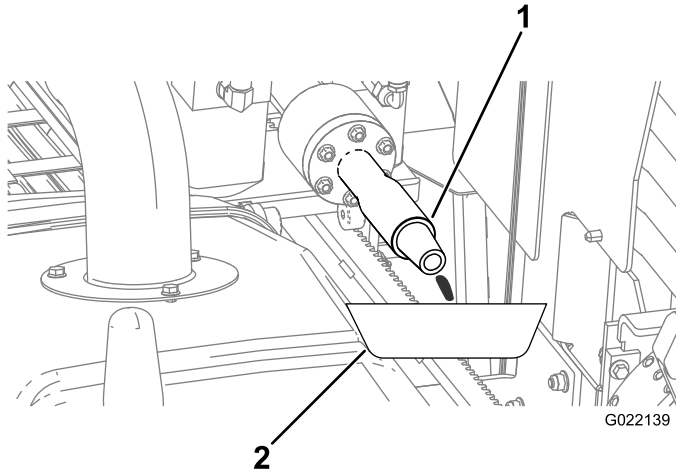

Figure 151
- B. Place a drain pan under the drill spindle for the leaked antifreeze (Figure 151).
- D. When the antifreeze comes out of the drill spindle (Figure 151), turn the pump off.